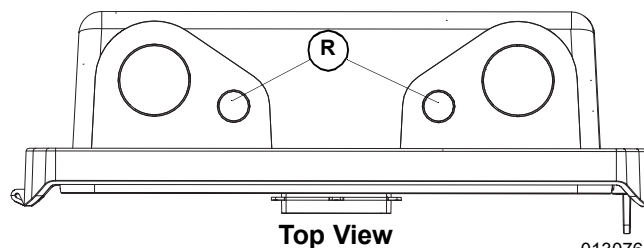

Figure 3-10. Small Conduit Openings
See Figure 3-10. To wire the HVAC circuits, run wires from the thermostat in the home to the PWRmanager through one of the smaller conduit openings (R).